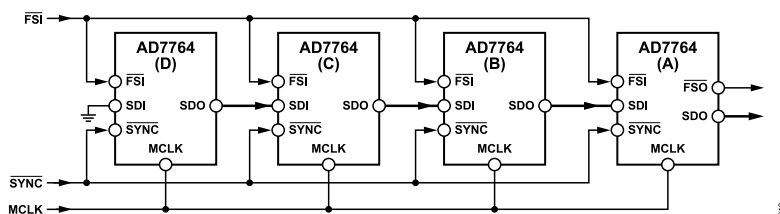

Figure 47. Daisy-Chaining Four Devices in Decimate 128x Mode Using a 40 MHz MCLK Signal
The block diagram in Figure 47 shows how to connect devices to achieve daisy-chain functionality. Figure 47 shows four AD7764 devices daisy-chained together with a common MCLK signal applied. This configuration works in decimate 128x or decimate 256x mode only.
Referring to Figure 47, note that the SDO line of AD7764 (A) provides the output data from the chain of AD7764 converters. Also, note that for the last device in the chain, AD7764 (D), the SDI pin is connected to ground. All of the devices in the chain must use common MCLK and SYNC signals.